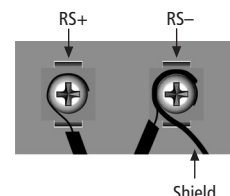

Figure 3
4. Strip a bare end on each wire approximately 1/4" long, and bend to a small hook. Place behind the screw and washer for each terminal that matches the labeled wire, and tighten securely. (Figure 3) Snap the front cover onto the back housing.